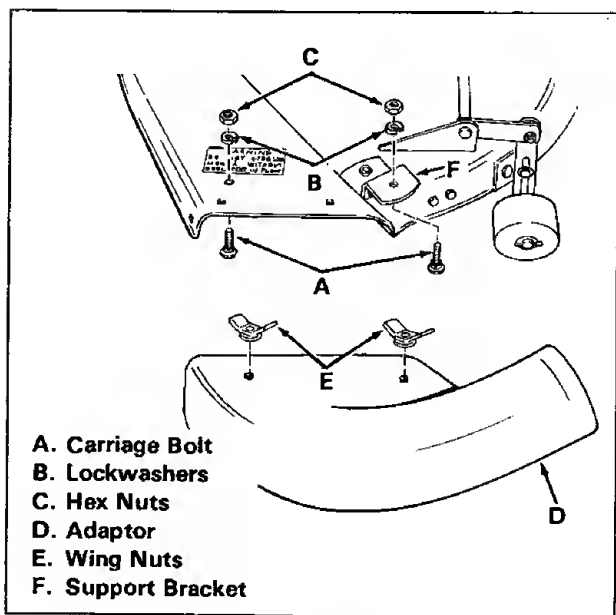

Figure 4
12. Use the two original sets of lockwashers and nuts (items B and C, figure 4), noted in step 6, to install the two 1 inch (25.4 mm) long carriage bolts (item A) provided with the grass catcher attachment as shown. Align the support bracket (item F) to fit the adapter (item D) and tighten bracket in place. The adapter is then slipped on the bolts over the hex nuts and held with the wing nuts (item E).